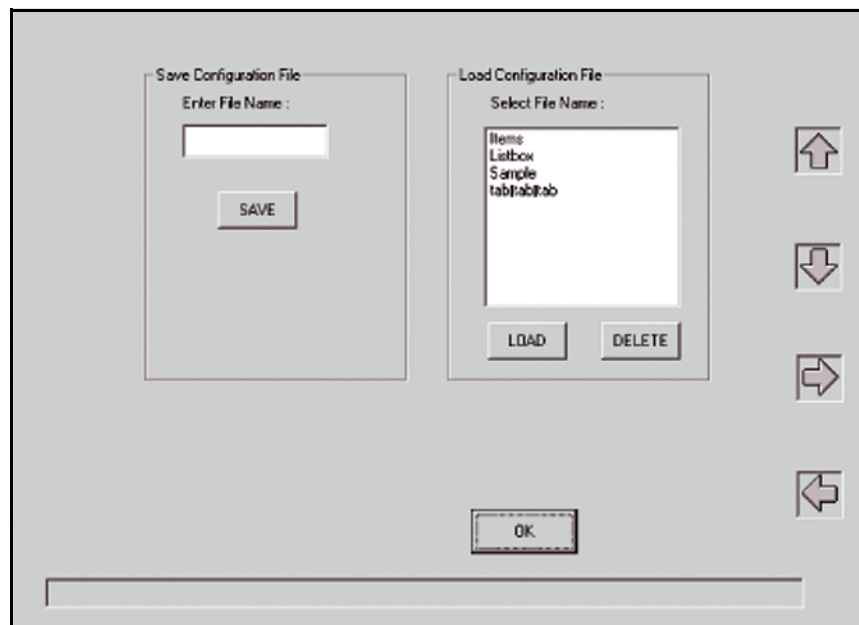

Figure 36: Configuration Screen
1. Select **Configuration** on the *Main Screen*. A screen similar to the one shown in *Figure 36* below appears.